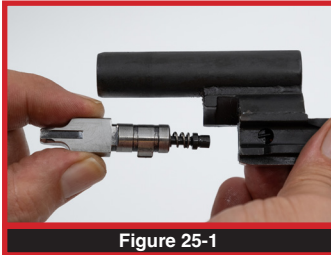

Figure 25-1
12. Install the firing pin spring onto the firing pin and insert the pin and spring into the locking piece (Figure 25-1).